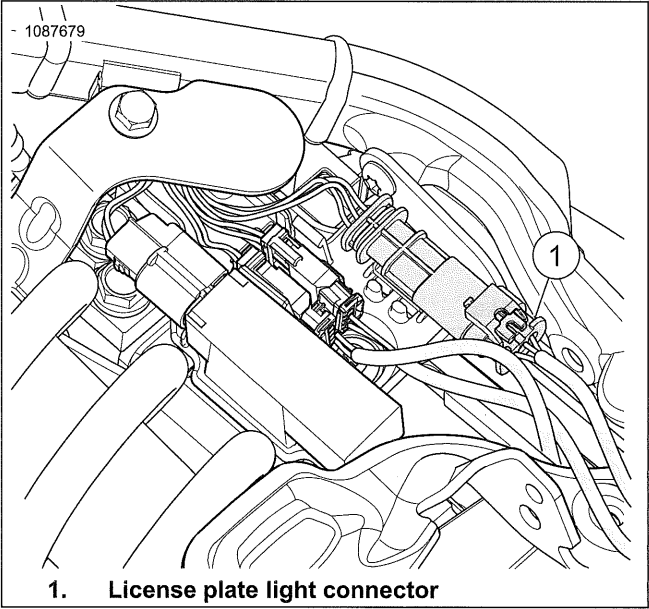
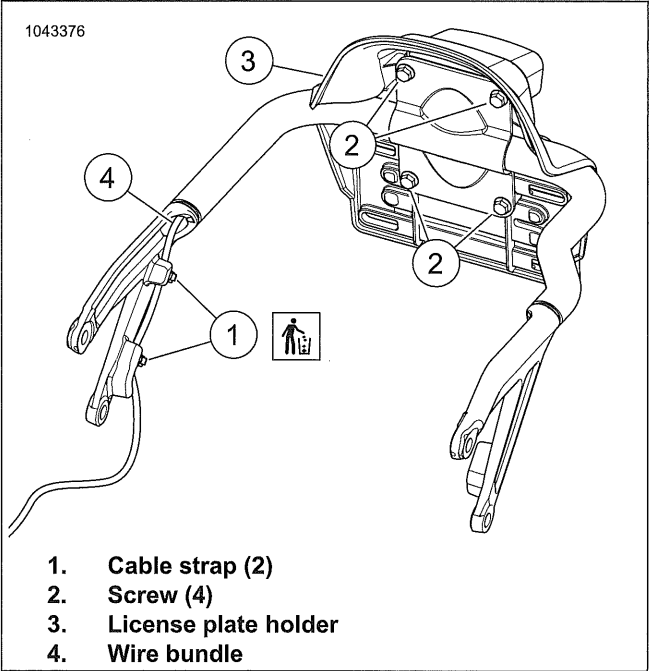
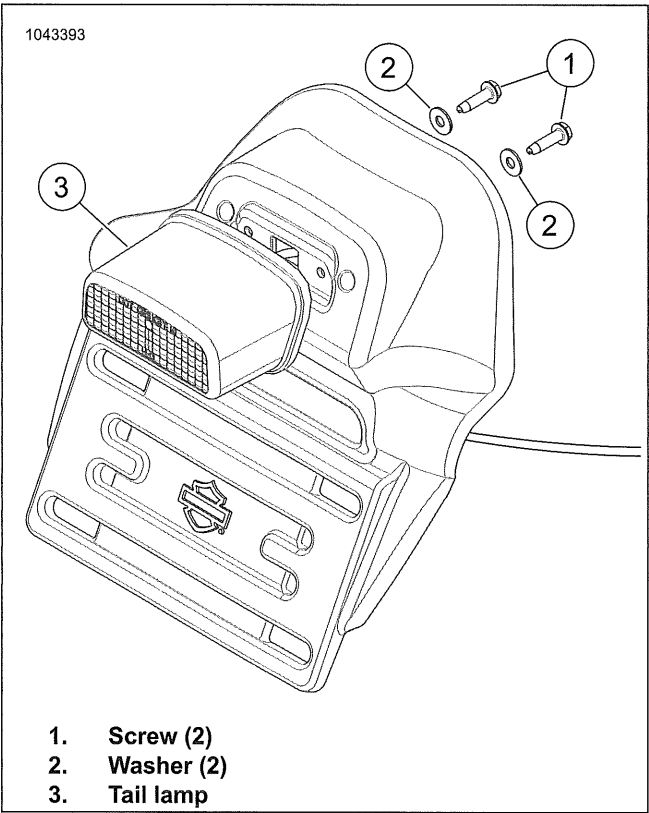

Figure 7-91. License Plate Light Connector
Figure 7-92. License Plate Holder
Figure 7-93. Tail Lamp (Typical)
1. See Figure 7-91. Disconnect license plate connector (1).
2. Disconnect pins from connector (1). See electrical diagnostic manual.
3. See Figure 7-92. Discard cable straps (1).
4. Remove screws (2).
5. Remove license plate holder (3).
6. Remove wire bundle (4) from frame.
7. See Figure 7-93. Remove screws (1) and washers (2).
8. Remove tail lamp (3).
1. See Figure 7-93. Install tail lamp (3).
2. Install screws (1) and washers (2). Tighten.
3. See Figure 7-92. Route wire bundle (4) through frame.
4. Install license plate holder (3).
5. Install screws (2). Tighten.
- Route harness and install **new** cable straps (1).
- Connect pins to connector (1). See electrical diagnostic manual.
- See Figure 7-91. Connect license plate connector (1).